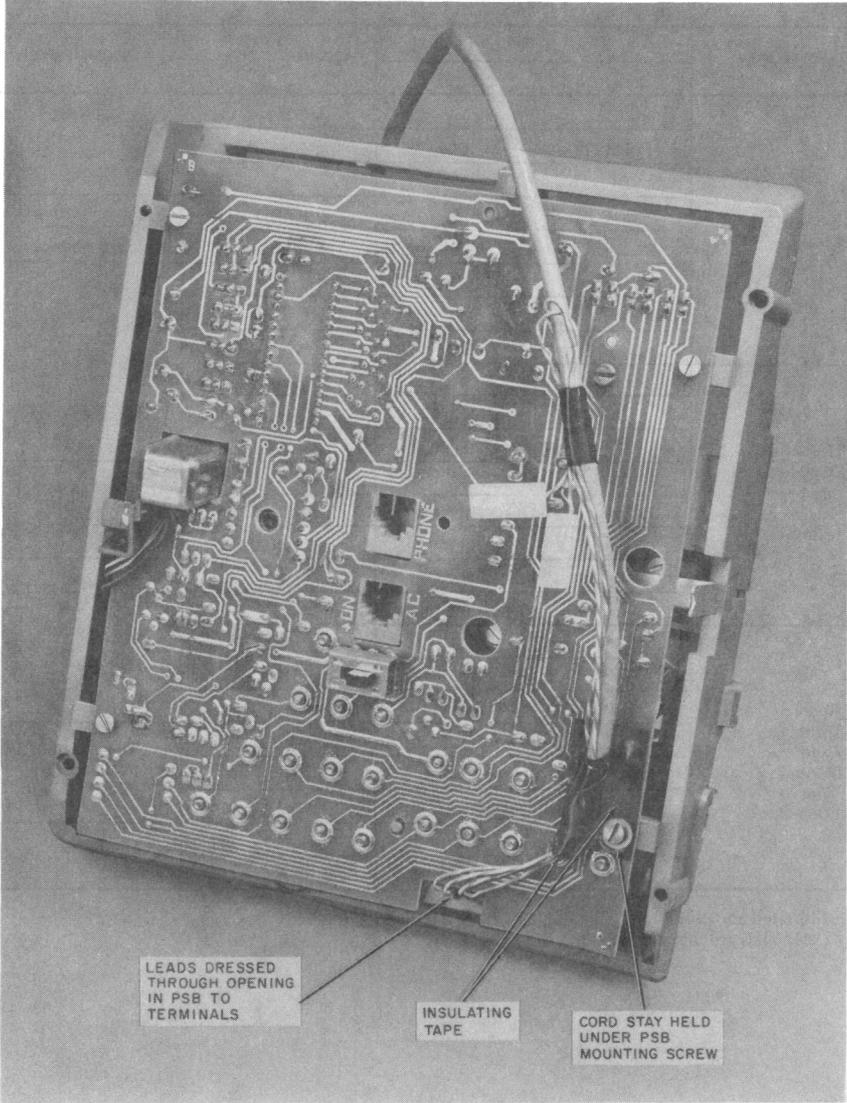

Fig. 14—Bottom of Set With Lower Housing Removed Showing an Adjunct Cord Dressed Across Power Supply Board (PSB)
8.02 Strain relief for optional cordage may be obtained by using any of the six screws used to fasten the power supply board to the bottom of the chassis (Fig. 14). Proper precautions must be taken so that the stay band and hooks do not short any circuit paths. Insulating tape should be placed around the cord and stay band and also applied to the power supply board under the cord (Fig. 14).
8.03 A rectangular cutout at the right front edge of the power supply board provides access for dressing individual spade-tipped leads to the appropriate screw terminals on the power supply circuit board (Fig. 14).